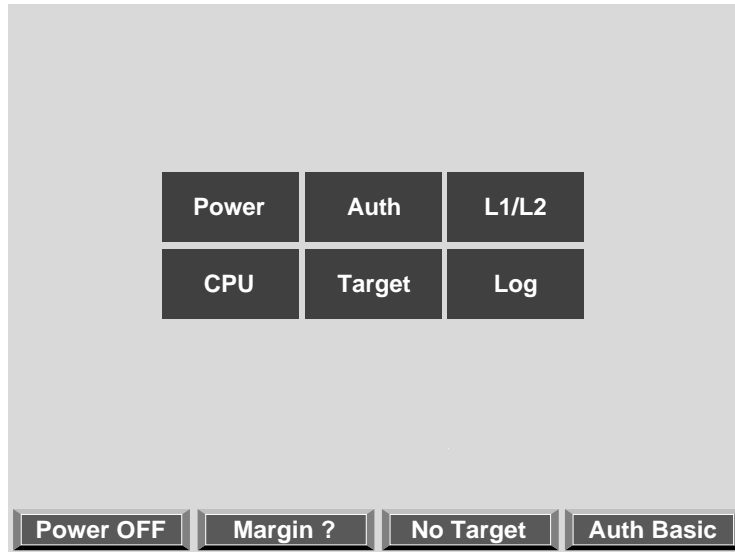
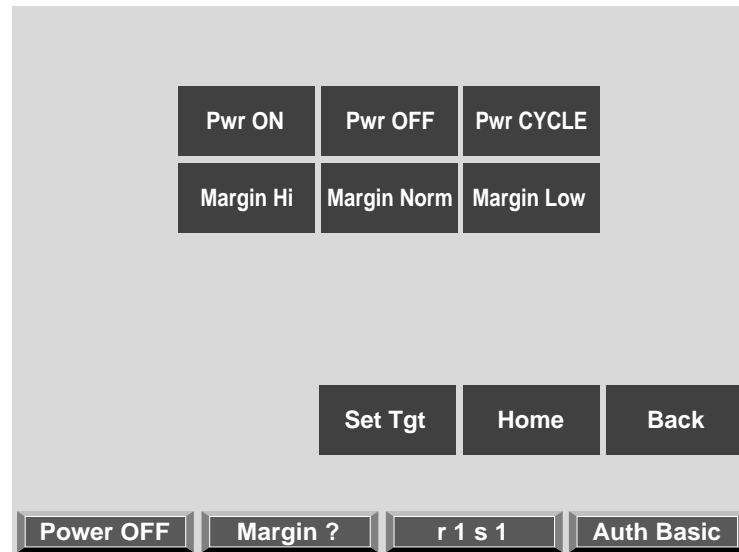

Figure 4-12 Home Window
Figure 4-13 Power Window
2. Select **Power** from the home window as shown in Figure 4-12, and the Power window appears, as shown in Figure 4-13.